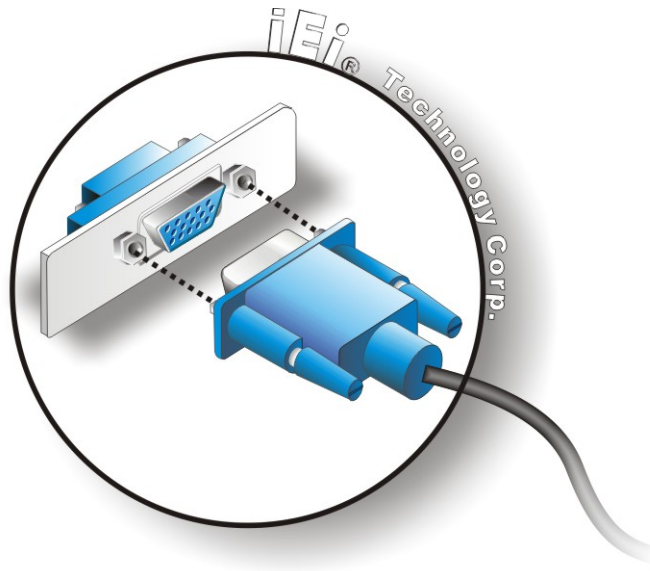

Figure 5-19: VGA Connector
- Step 3: Insert the VGA connector** Once the connectors are properly aligned with the insert the male connector from the VGA screen into the female connector on the KINO-761AM2. See **Figure 5-19**.